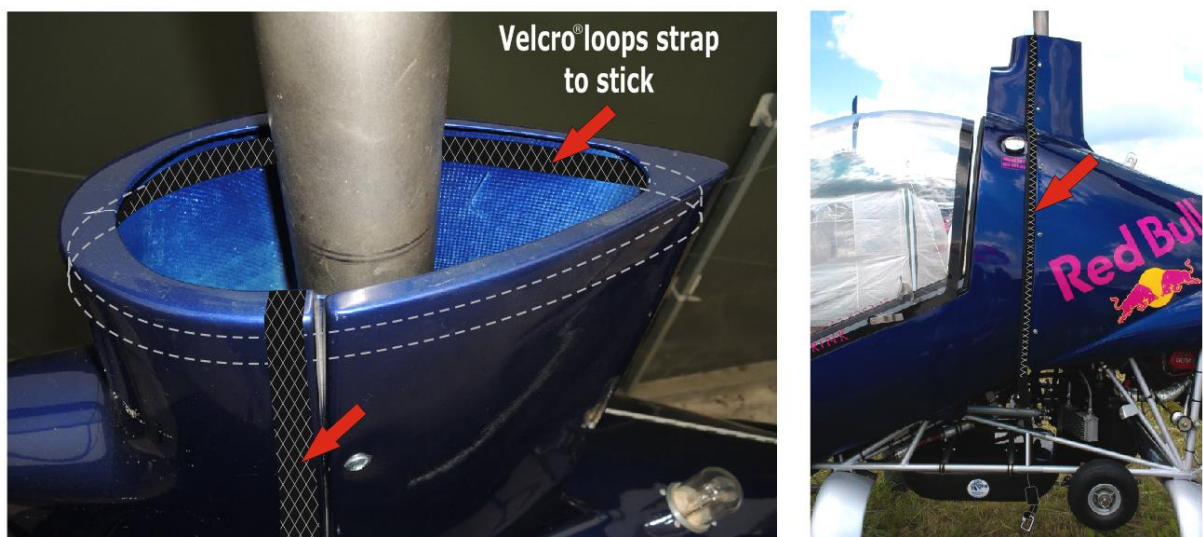

Figure 6
- 5) Stick the Velcro® strap with "loops" on the fuselage of the helicopter along the gap (between fiberglass parts of the fuselage) and inside the upper fuselage ending around the perimeter according to figure 6.